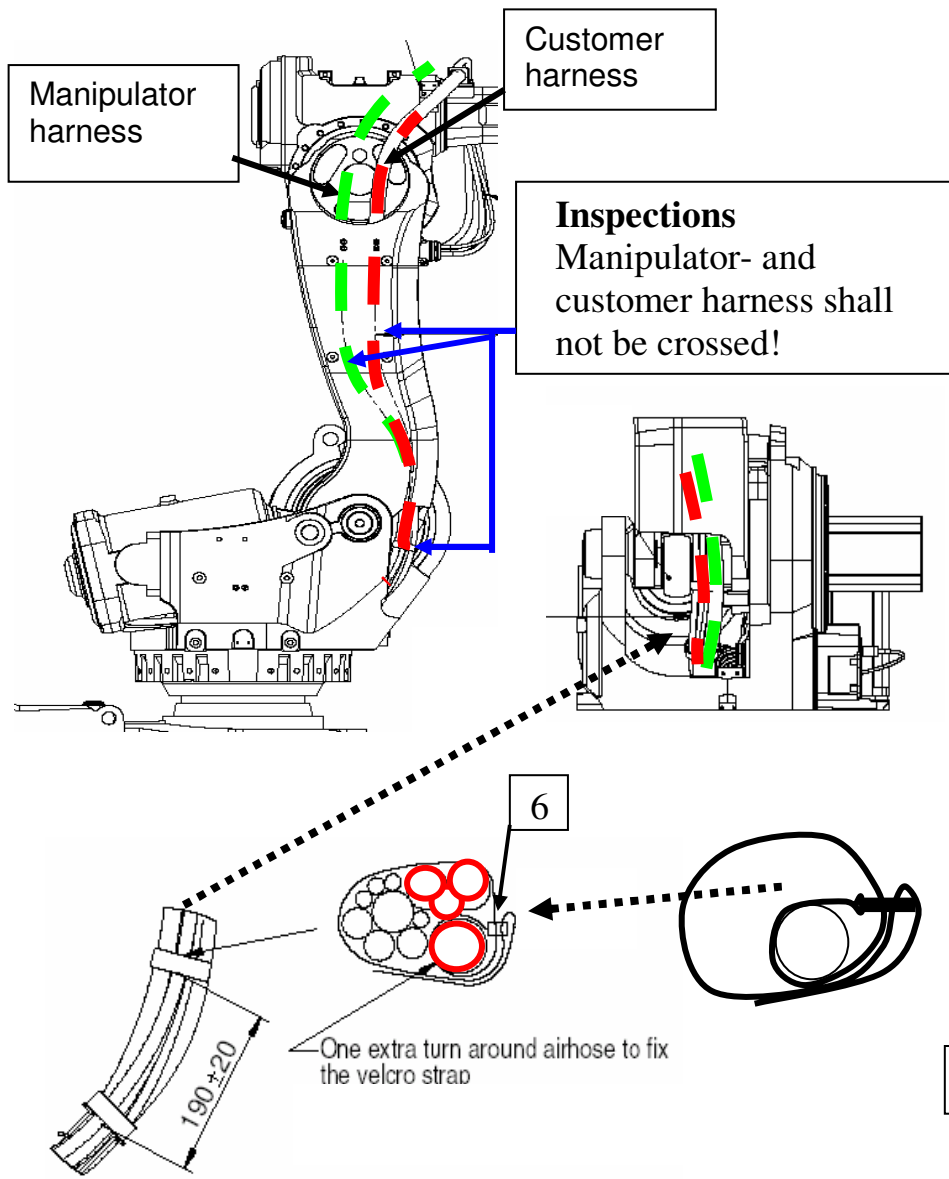

Figure 4
2. Tighten the band and then wind one turn around all cables according to the figure 4.
5. Note! Correct routing of the harness inside the lower is very important! Refer to information in figure 4. See RSI10112 for detail information.